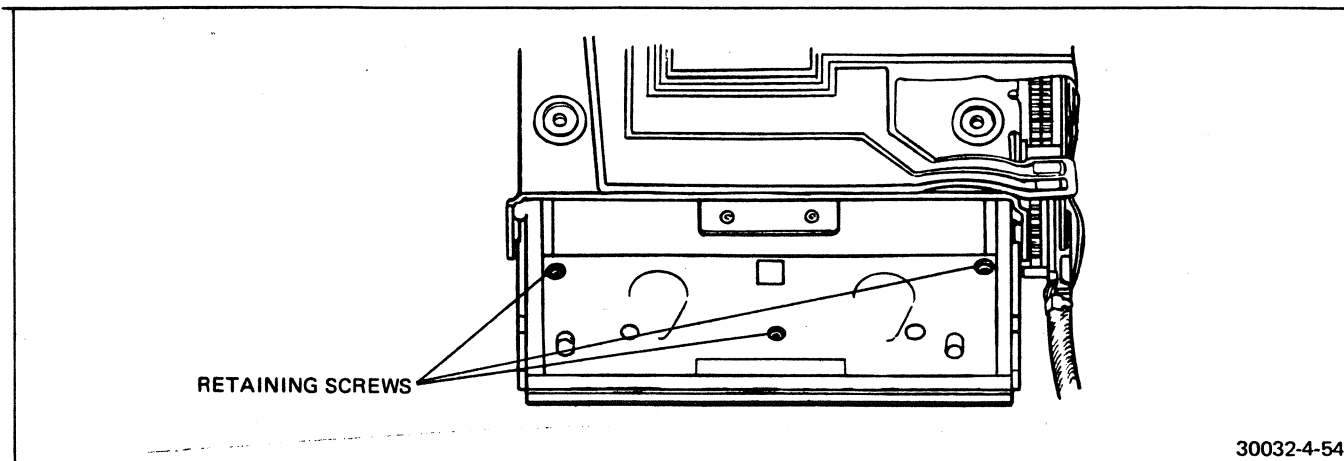

FIGURE 4-54 BOOT RETAINING SCREWS
5. Remove the four bottom-cover retaining screws (Figure 4-54).